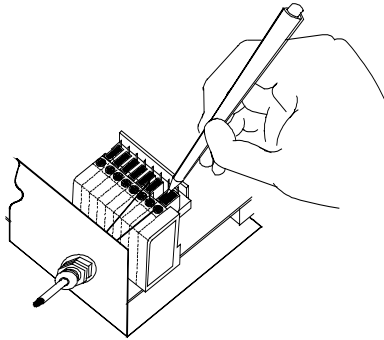

Figure 5 - System cable connections
- Using a device such as a screwdriver, push down on the lever directly next to the clamp (see Figure 5).